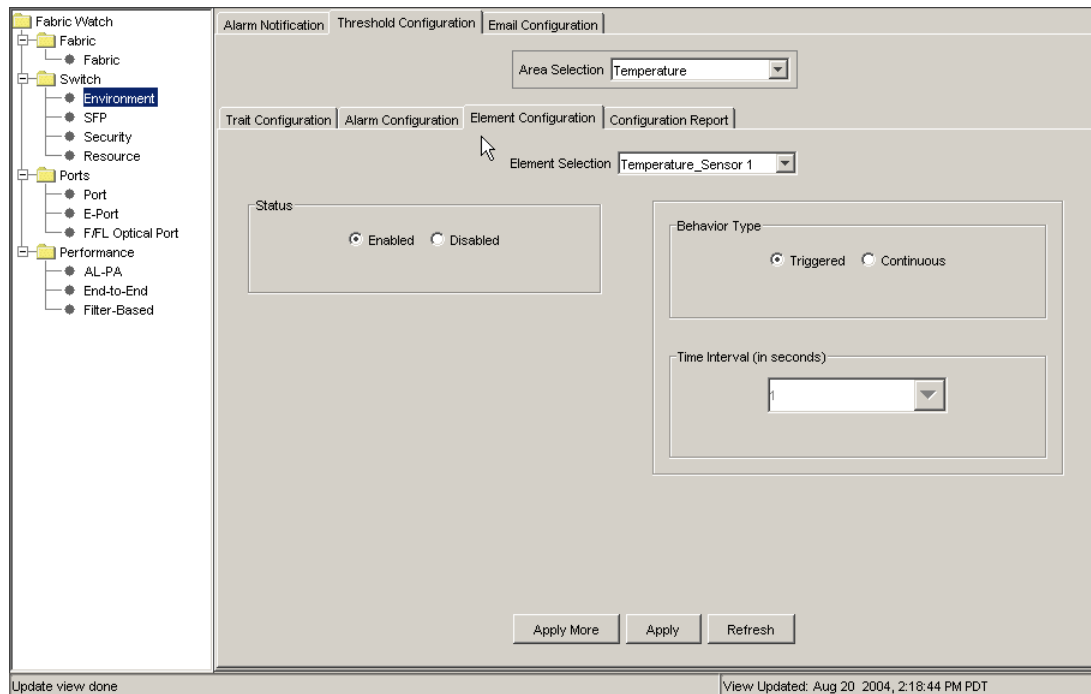

Figure 122 Element configuration tab within the threshold configuration tab
Use the Element Configuration tab (see Figure 122) to view and configure threshold traits. Table 47 lists and describes the components of the Element Configuration tab.
Use the Element Configuration subtab (see Figure 122 on page 183) to configure element-specific alarm settings.
5. Click the **Element Configuration** subtab (see Figure 122 on page 183).